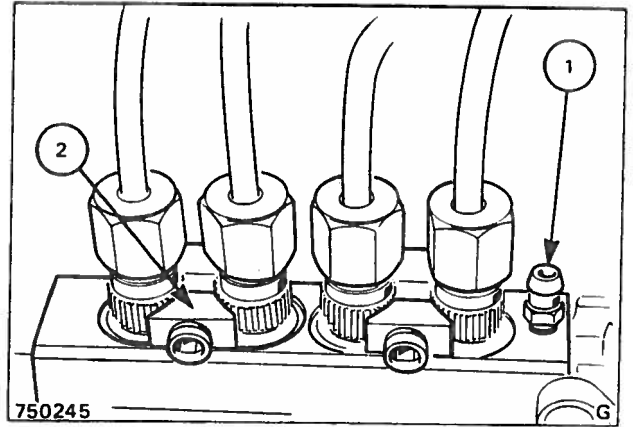
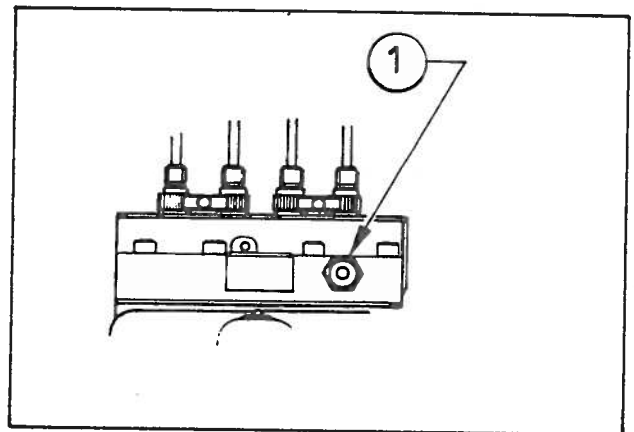

Fig. 40 Location of Micromec injection pump bleed screw
Fig. 41 Location of Minimec injection pump bleed screw
4. Loosen the bleed screw on the injection pump body two or three turns (located on the top of the pump body for 'Micromec' pumps, Fig. 40, and on the pump body side for the 'Minimec' pump, Fig. 41) and operate the priming pump as before.
Position the injection pump timing gear so that the studs are at the left hand end of the slots – see Fig. 40 in the 'Engine' section.
Lightly tighten the gear securing nuts, then turn injection pump gear until timing peg can be inserted as shown in Fig. 41 in the 'Engine' section. A suitable peg can be easily manufactured to the dimensions given.